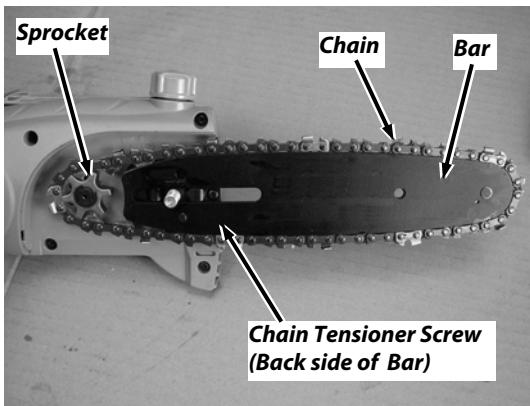

Figure 25
4. Remove the Bar and Chain from the mounting surface. You may need to loosen the Chain Tensioner Screw to make removal of the Bar and Chain easier (**Figure 25**).